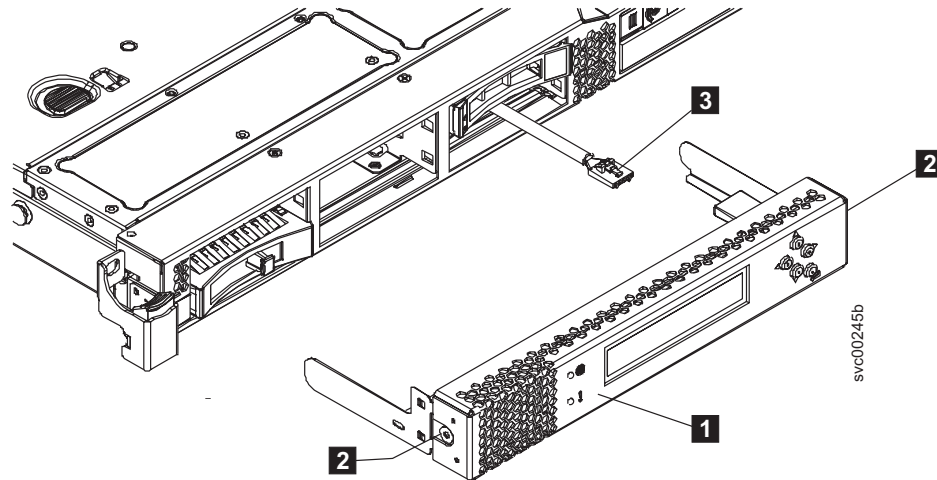

Figure 87. SAN Volume Controller 2145-CF8 service controller
1. When the service controller, as shown by **1** in Figure 87 on page 103, is close enough to the USB cable (**3**), attach the cable to the service controller, if necessary.